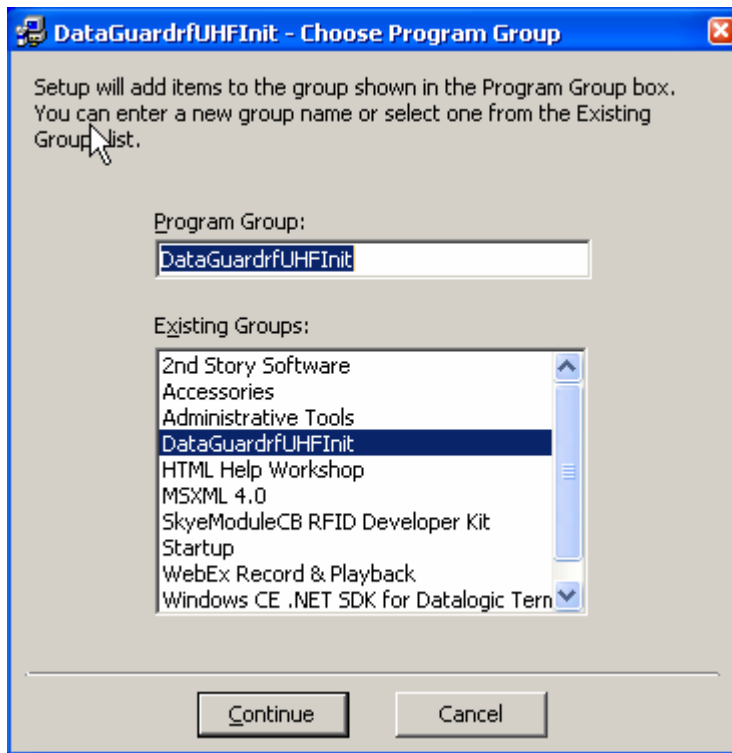

Figure 3
- I. Choose the program group you wish to include the software in and press the **Continue** button on the Choose Program Group Installation dialogue box (Figure 3) to begin the installation. When the installation is complete, click on the **OK** button to exit the installation set up of the software for the DataGuard rf UHF Label Programmer.